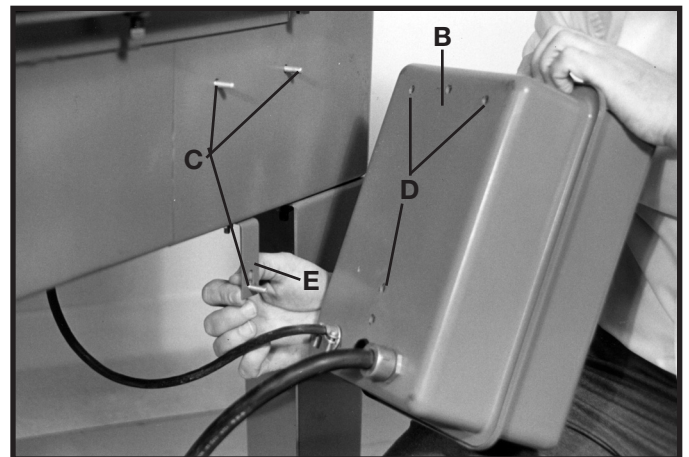

Fig. 14
2. Assemble the starter box (B) Fig. 14, to the right side of the base. Place a 1/4" lockwasher onto a 1/4-20 x 1/2" hex head screw, place a 1/4" flat washer on the screw and insert the hex head screw (C), through the hole in the bracket (E), and thread screw into the weld nut (D) Fig. 14, in the back of the starter box (B). Repeat this process for the two remaining holes in the base and the starter box.